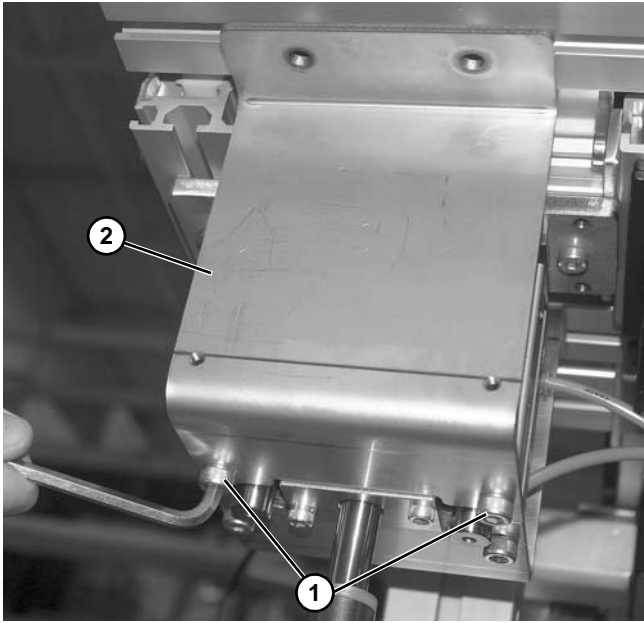

Figure 109
7. Remove two lower screws (**Figure 109, item 1**) securing bracket (**Figure 109, item 2**) onto lift cylinder.